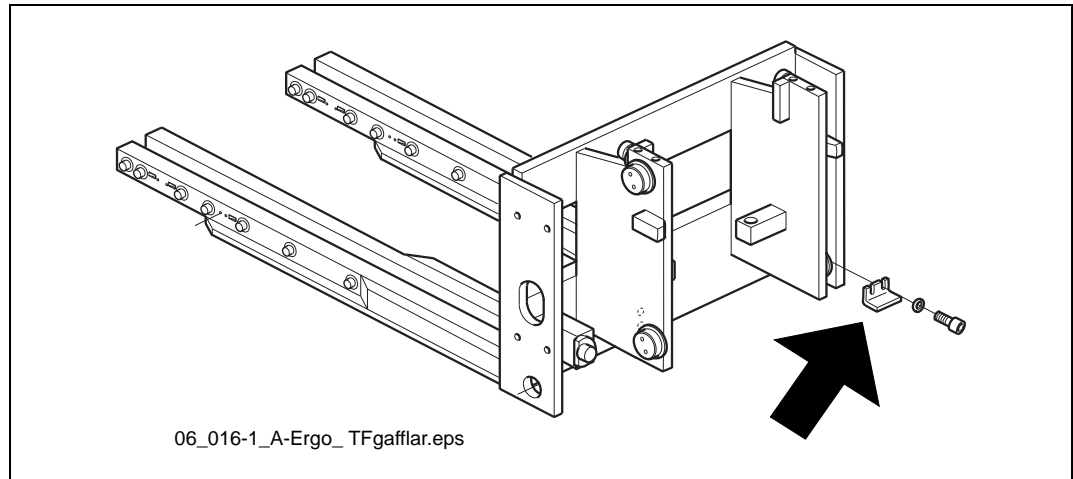

Figure 6.29 Over-cogging protection
1. Lift the fork carriage to a suitable height to dismantle the over-cogging protection on the back of the fork carriage, see figure 6.29.